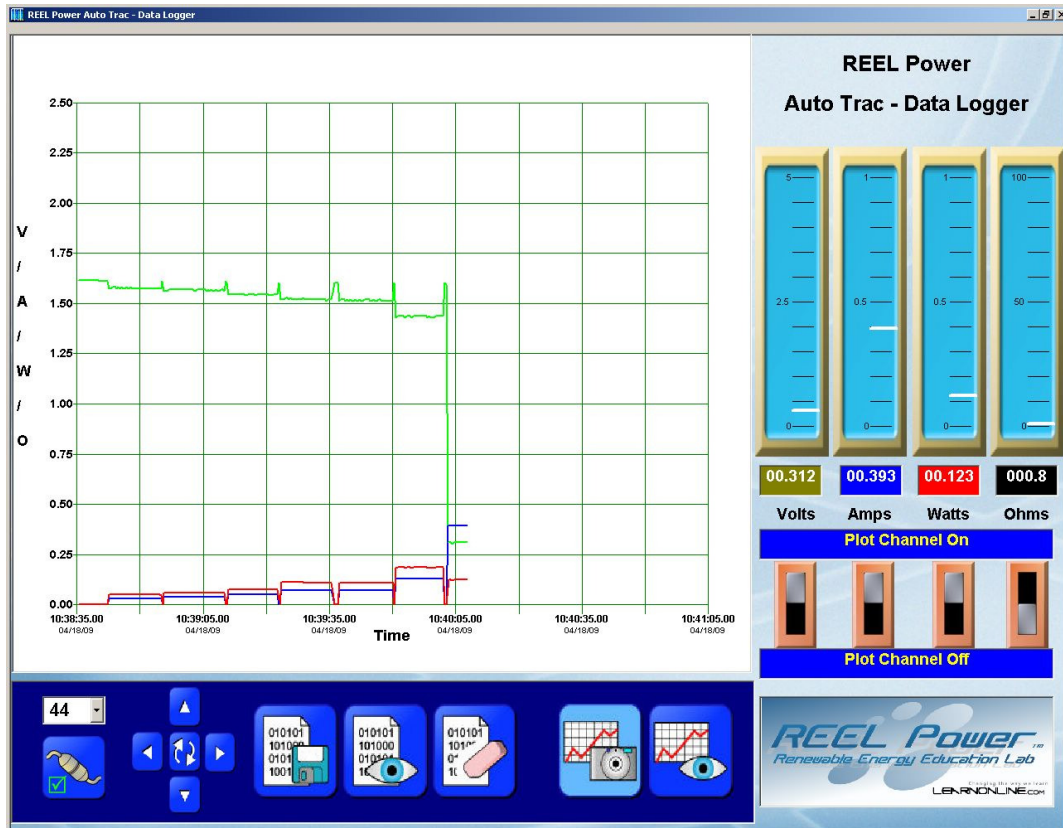

Figure 5– Plot of Maximum Power Point with Solar Panels in Parallel
6. Push the **Track** key on the **Smart Meter – Data Logger™** until the **View Trackx Data** message is displayed where Trackx is the Track used to record the second exercise with the solar panels in parallel. A plot similar to Figure 5 should appear. Adjust the vertical voltage scale to 2.5 volts.